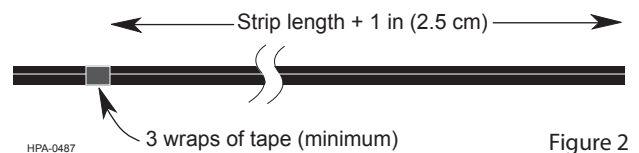

Figure 2
4.2 Mark the cable at the appropriate distance, plus 1 inch (2.5 cm), from the cable end with at least three wraps of tape (Figure 2). *These wraps will permanently remain on the cable.*